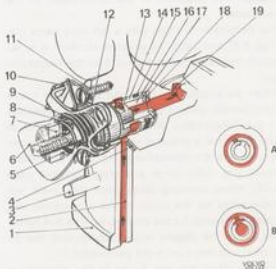

Fig. 2-93. Cold start device
Extra fuel for the venturi is obtained through this channel (see Fig. 2-93).
During cold starting, the fuel-air mixture is given extra fuel through the cold start device. This device consists of a valve housing (14, Fig. 2-93) partly located in a space in the lower section of the carburetor housing and is provided with seals (8 and 15). A pivotable spindle (16) is located in the center of the valve housing. When the spindle is turned to cold start position, fuel is drawn from the bottom of the floatchamber through the channel (2) to the space round the valve housing. From there it is taken through a hole in the valve housing, a chan-
nel in the center of the spindle and a channel in the carburetor housing to the carburetor venturi at the bridge. The linkage between the hole in the valve housing and the channel in the center of the spindle is made up of a hole and a V-slot. When the spindle turns, the through-flow area is altered gradually in the V-slot, and at full turn, the fuel goes directly through the hole, see Fig. 2-93. In this